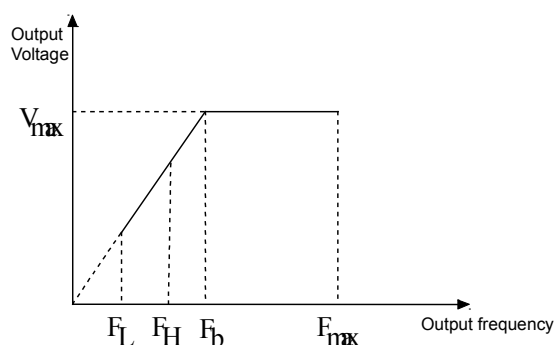

Fig.6-1 Characteristic parameters
Max output frequency is the highest permissible output frequency of the drive, as shown in Fig. 6-1 as  $F_{max}$ ;
Max output voltage is the highest permissible output voltage of the drive, as shown in Fig. 6-1 as  $V_{max}$
Upper limit of frequency is the highest permissible operating frequency of the user setting, as shown in Fig. 6-1 as  $F_H$ .
Lower limit of frequency is the lowest permissible operating frequency of the user setting,as shown in Fig.6-1 as  $F_L$ .
Basic operating frequency is the Min. frequency when the drive outputs the max voltage in V/F mode, as shown in Fig. 6-1 as  $F_b$
4. The Max. output frequency,upper limit frequency and lower limit frequency is as shown in Fig.6-1.